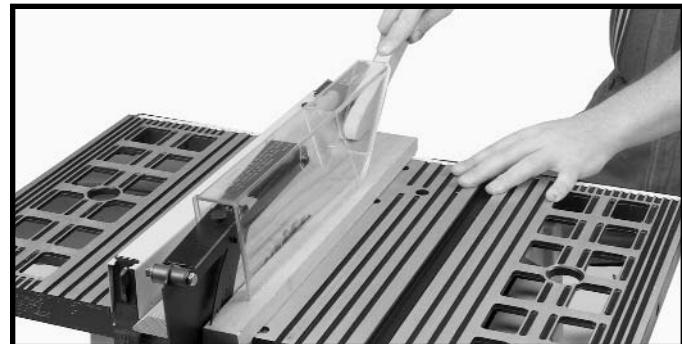

Fig. 44
3. If the ripped work is less than 6 inches wide, a push stick should always be used to complete the feed, as shown in Fig. 44. The push stick can easily be made from scrap material as explained in the section "**CONSTRUCTING A PUSH STICK.**"